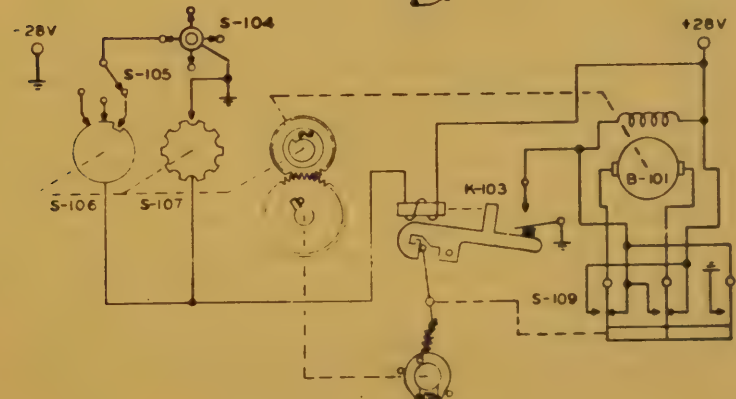

Figure 2-4 Autotune Sequence of Operation (Sheet 2 of 2 Sheets)
b. SEQUENCE OF OPERATION. - The sequence of operation is explained fully in Figure 2-4.